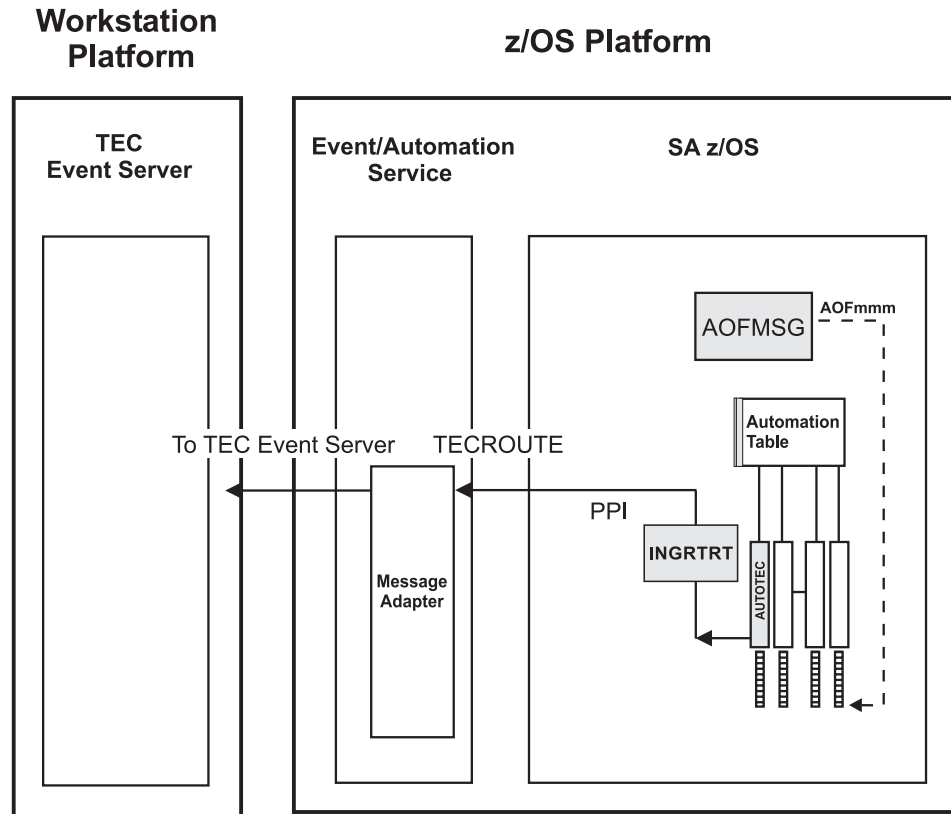

Figure 6. Local Configuration: NetView Event/Automation Service Local to the SA z/OS Source of Messages
- **local configuration:** The message adapter or alert adapter is running on the same z/OS system on which SA z/OS is also running. The adapters are local to the SA z/OS which is issuing and forwarding messages and alerts to the Tivoli Enterprise Console. Such a configuration for message forwarding is illustrated in Figure 6 on page 56.